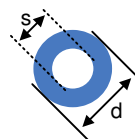

Figure 11-2. Thermal Pad Layout Recommendation
- The thermal pad should be tied to the PCB ground plane with a minimum of 25 vias. See Figure 11-2 for an example.